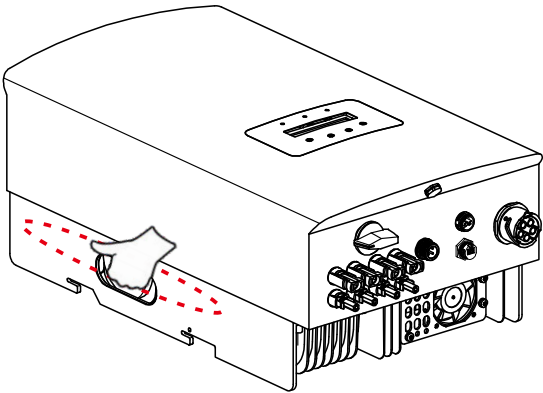

Figure 4.2 Inverter handles
2. Open the carton, then handle both sides of inverter through the area denoted dotted line. (see figure 4.2).